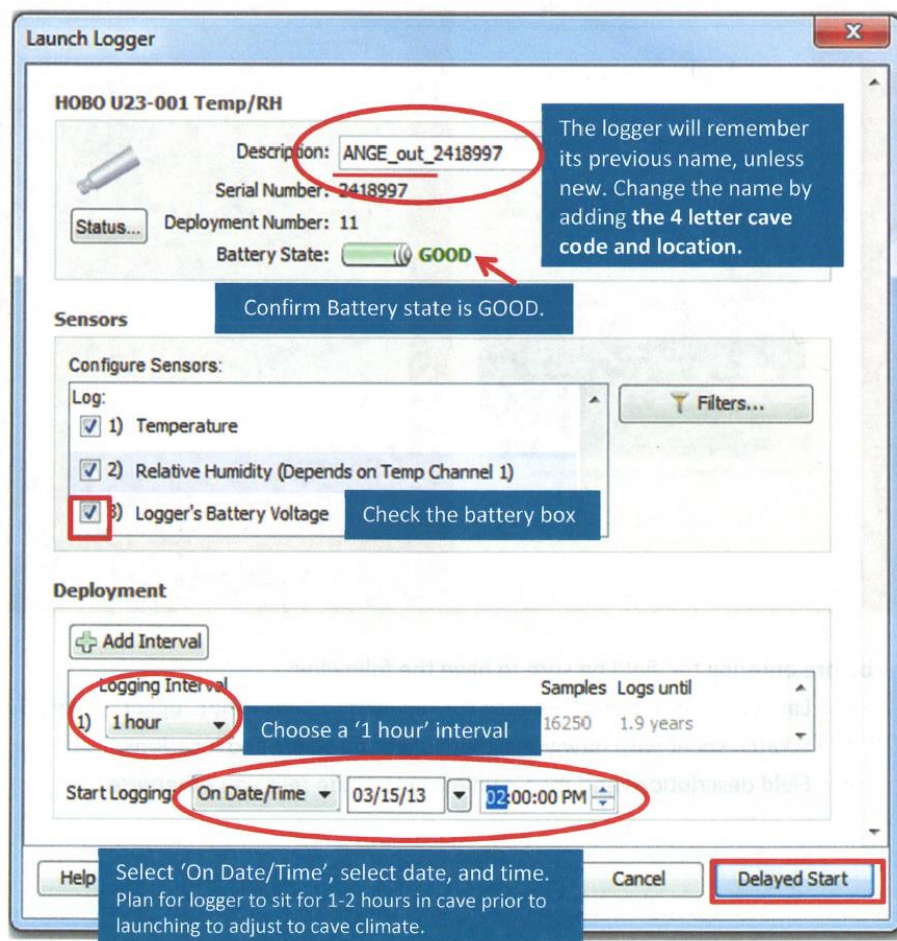

Figure 5-6. *Launch Logger* screen with added instructions for programming the data logger.
- c. The screen below allows you to program the logger (Figure 5-6). Read the text boxes to know where to make the appropriate adjustments to the standard settings. (Note: if launching for accuracy test, set logging interval to 10 seconds.)